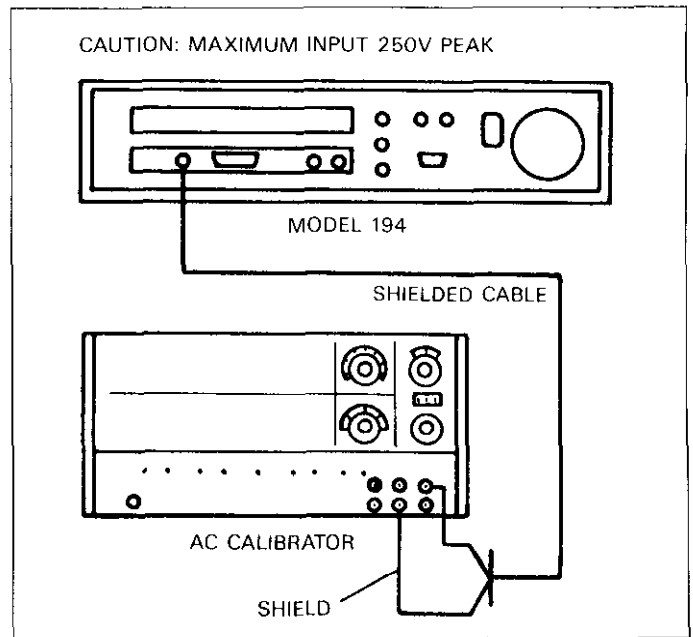

Figure 5-3. AC Verification Connections
1. Connect the AC calibrator (Table 5-1) to the VOLTAGE INPUT jack of the channel being tested. Use the basic connecting scheme shown in Figure 5-3.